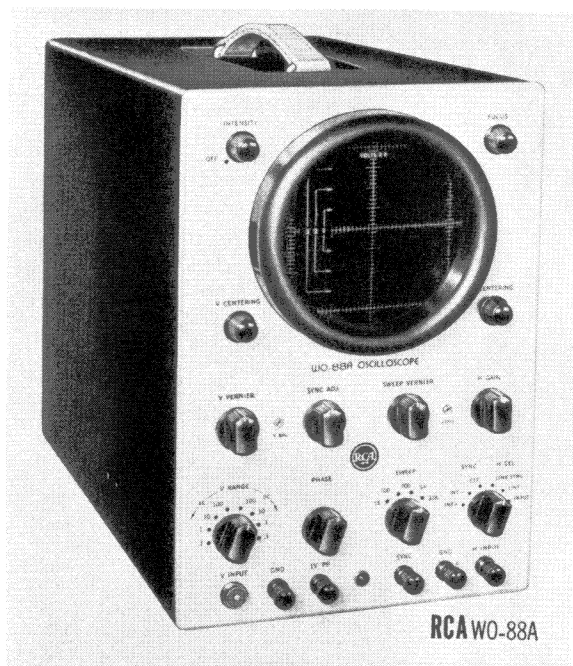

Fig. 33-1
The front panel of a representative oscilloscope, the RCA WO-88A intended for use by radio-TV technicians is illustrated in Fig. 33-1. Let's go over the functions of these controls.
Two controls are used for regulating the frequency of the horizontal sweep. One labelled SWEEP in Fig. 33-1 controls the frequency in large steps. In other oscilloscopes, this control is called the Sweep Selector, or Coarse Frequency. The other control, labelled SWEEP VERNIER in Fig. 33-1, varies the frequency range between the steps of the first control. Since this second control is capable of changing the frequency continuously (rather than in abrupt steps), and does so over a relatively small frequency range, it is often called a fine frequency control.
V RANGE and V VERNIER Controls. In some oscilloscopes, a vertical step attenuator is used. This switch-type control is labeled V RANGE in the oscilloscope illustrated in Fig. 33-1. In others, it is called the vertical attenuator, or vertical input control, or something similar. The function of the control is to attenuate or reduce large a-c voltages applied to the vertical input of the oscilloscope, to keep the waveform from being deflected off screen as well as to prevent overloading of the vertical input stage.
In the oscilloscope shown in Fig. 33-1, the vertical attenuator (V RANGE) control is capable of varying the amplitude of applied d-c as well as a-c voltages. The settings at the left are for the attenuation of a-c voltages; those at the right are for reducing d-c or very low-frequency a-c input voltages.
Input Connections; Input Leads. The vertical input of the oscilloscope is in some cases connected to a jack on the front panel, as it is in the V INPUT jack on the oscilloscope we are discussing (Fig. 33-1). An oscilloscope cable that terminates in a connector that mates with the jack is used in this instance. In other instances, the vertical input is a terminal post, similar to the terminal post commonly used for the horizontal input (labeled H INPUT in Fig. 33-1). A coaxial cable commonly terminating in phone tips or alligator clips, or (less preferably) a pair of unshielded leads, connects between the vertical input and ground posts in such cases. For simplicity's sake, we will refer to both the coaxial cable and the unshielded leads as oscilloscope leads. The probe and cable assembly used for the oscilloscope under discussion serve the same purpose as the oscilloscope leads just described. A ground lead is used in conjunction with the probe to connect the oscilloscope vertical input to the receiver circuit under test.
H INPUT Terminals. In certain applications of the oscilloscope, the horizontal time-base generator is disconnected from the horizontal amplifier, and an external source of horizontal deflection voltage is fed to the horizontal input of the oscilloscope. Connection to the horizontal input is made at the terminal labeled H INPUT in the oscilloscope shown in Fig. 33-1. In some oscilloscopes, the terminal is called the X input.
SYNC H SEL Switch. The sync selector switch (labeled SYNC H SEL in Fig. 33-1) makes a number of different sync signals available. When the setting of the switch is at INT (abbreviation for *internal*), a portion of the vertical amplifier output signal is fed back to the oscilloscope time-base generator, and synchronizes the applied a-c signal. This switch setting is the most commonly used one.
On the oscilloscope shown in Fig. 33-1, two INT settings, INT+ and INT−, are provided to ensure good lock-in action. This
The setting labeled LINE SYNC (Fig. 33-1) may be used when the frequency of the signal applied to the vertical input is 60 cps, or a multiple or submultiple of 60 cps. (A *multiple* of 60 cps is a frequency that is twice, or three times, or four times 60 cps, etc. — for instance, 120, 180, or 240 cps. A *submultiple* of 60 cps is a frequency that is 1/3, or 1/2, or 1/4 of 60 cps, etc. — for instance, 20, 30 or 15 cps.) The time-base
The SYNC H SEL switch should be set to INPUT when the time-base generator is disconnected and an external source of sweep voltage is used for horizontal deflection. In some oscilloscopes, the coarse-frequency control has a setting at which the necessary circuit switching takes place. The setting is often labeled hor. input. In the oscilloscope shown in Fig. 33-1, the circuit switching referred to takes place when the SYNC H SEL switch is placed at INPUT setting. At this setting, the external sweep voltage
GND Terminals. The terminals marked GND in the oscilloscope illustrated in Fig. 33-1 are directly connected to the chassis of the oscilloscope. They serve as a common ground for the oscilloscope and the receiver chassis to be tested, or for the oscilloscope and any test instrument that is connected to the oscilloscope.
The procedure described below will give you an idea of how a typical oscilloscope, such as the one shown in Fig. 33-1, is set up. However, the procedure outlined applies in general to oscilloscopes intended for radio-TV service work. It will have to be modified slightly, depending on the controls and circuits used in the oscilloscopes you are using. If you buy an oscilloscope, the instruction manual that comes with it will tell you the exact procedure to follow.
4. Connect the probe tip of the oscilloscope cable to the 1V PP terminal. Adjust the V CENTERING control so that the waveform is centered and adjust the V VERNIER control until the waveform on the screen is exactly 1 inch high. Heights of 1, 2, and 3 inches respectively are marked off at the left hand side of the screen (Fig. 33-1). One volt now covers 10 divisions on the vertical scale in the center of the screen. Therefore, each division on the vertical scale is equal to 0.1 volt.